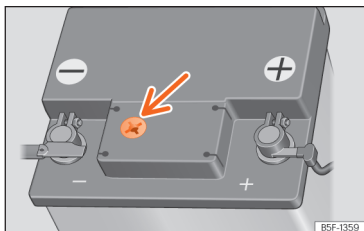

Fig. 250 Sight glass on the top of the 12 volt battery (schematic representation).
- Check the colour display in the sight glass on the top of the battery »» **Fig. 250**. Ensure sufficient lighting to clearly identify the colour shown in the battery window. Never use flames or objects that burn without a flame as a light source.